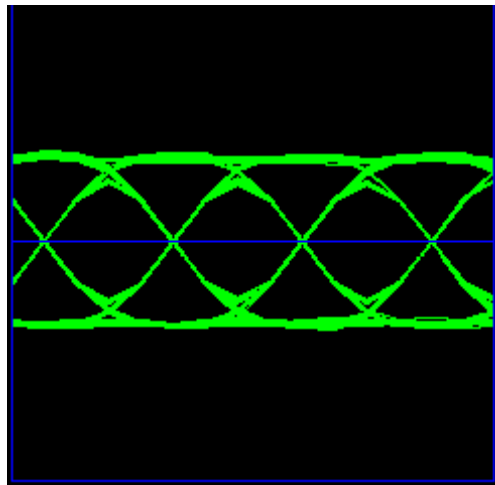

Figure 299: "Clean" Eye Pattern
- The eye pattern NEVER looks "clean," as in Figure 299